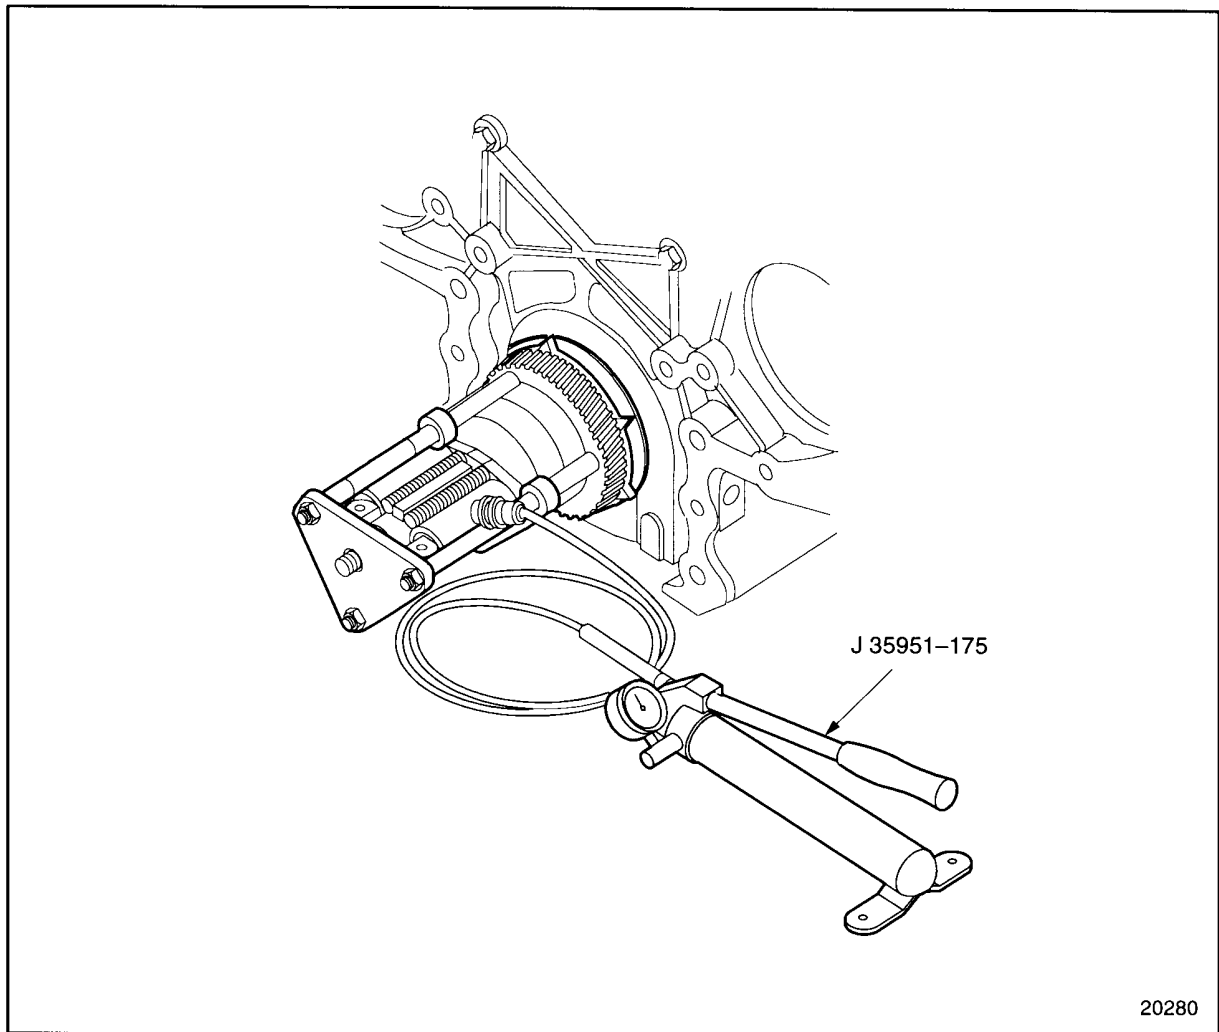

Figure 1-360 Crankshaft Timing Gear Removal
14. Close the valve on the hydraulic pump of portable press J 35951-175. Pump the lever to build pressure and remove the crankshaft timing gear. See Figure 1-360.